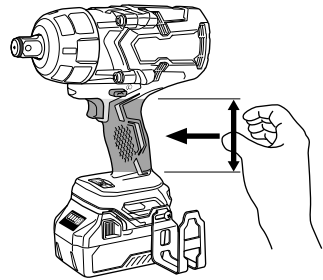

Fig. 1
2. **Make sure to securely hold the tool during operation. Failure to do so can result in accidents or injuries. (Fig. 1)**